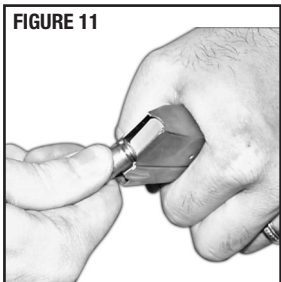

FIGURE 11
- Load the magazine by pressing a cartridge head (rear of cartridge) downward on the forward portion of the magazine follower (or downward on the case of the previously loaded cartridge) and sliding the cartridge fully under the lips of the magazine until the cartridge head is against the rear wall of the magazine (FIGURE 11). Repeat the procedure for the number of cartridges you wish to load, up to the magazine capacity. Do not attempt to load your magazine with more than the specified number of cartridges because doing so can cause a feeding failure.